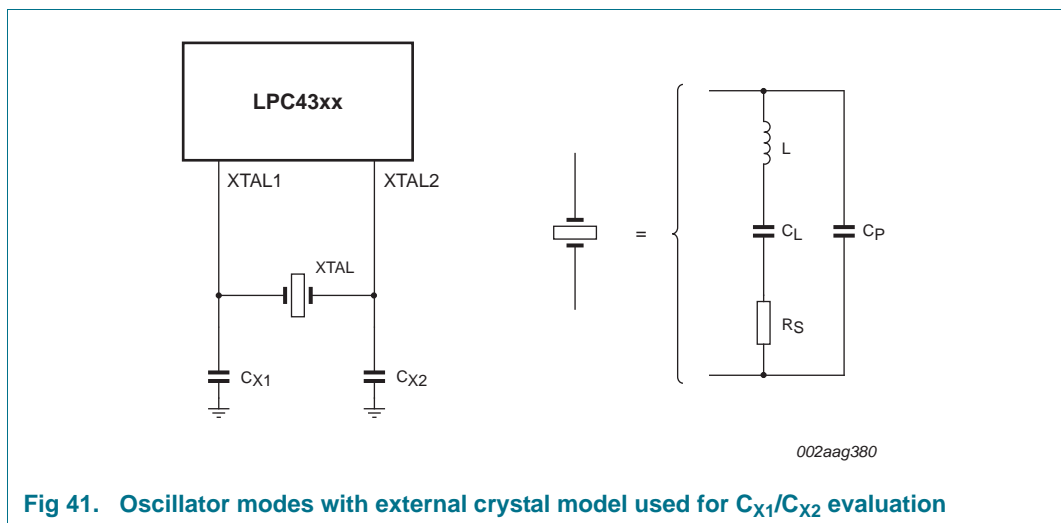

Fig 41. Oscillator modes with external crystal model used for C_{X1}/C_{X2} evaluation
- External components and models used in oscillation mode are shown in Figure 41, and in Table 27 and Table 28. Since the feedback resistance is integrated on chip, only a crystal and the capacitances C_{X1} and C_{X2} need to be connected externally in case of fundamental mode oscillation (the fundamental frequency is represented by L , C_L and R_S). Capacitance C_P in Figure 41 represents the parallel package capacitance and should not be larger than 7 pF. Parameters F_C , C_L , R_S and C_P are supplied by the crystal manufacturer.